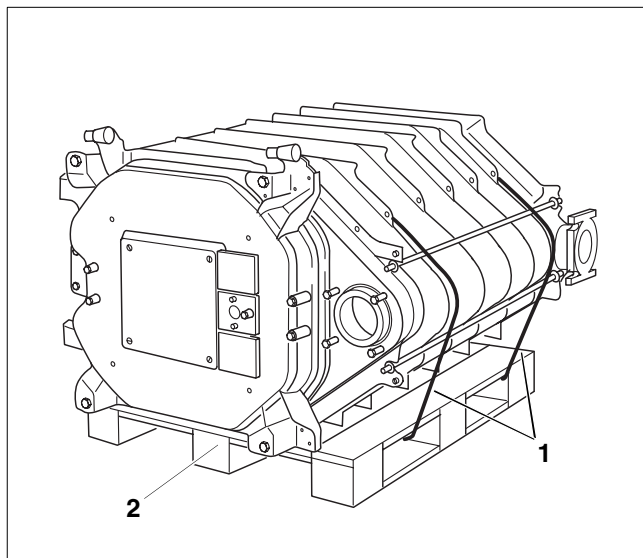

Fig. 20 Boiler block on pallet
- Cut the securing straps (Fig. 20, **ref. 1**).
- Before installing the boiler, take it off the pallet (Fig. 20, **ref. 2**).